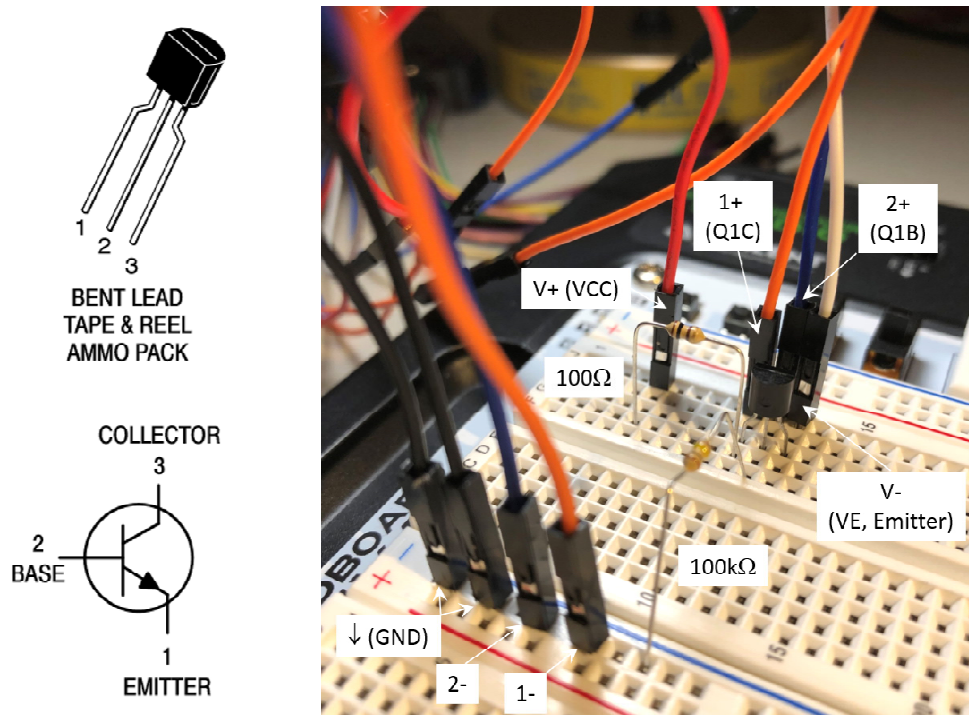

Fig. 2 Experimental setup for the DC Characterization of an NPN-BJT 2N3904
- 1.5 Prepare the circuit as shown in Fig. 2 using the same settings for V_E and V_{CC} in steps 1.2 to 1.4.